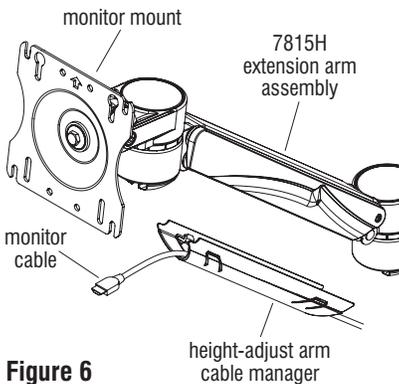

Figure 6
10. Lay cables in height-adjust arm cable manager (Figure 6).